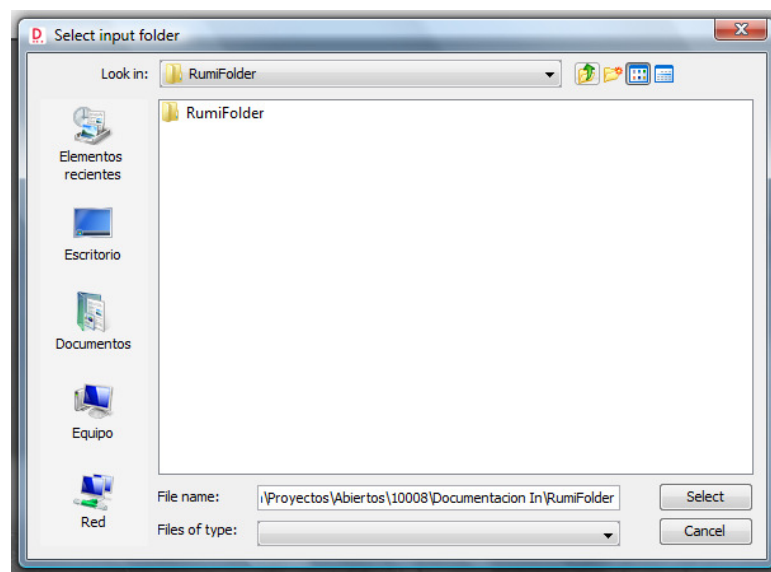

Figure 2
- Input folder: shows a folder selector to choose where files picked from uploading actions have to be saved. (Figure 2).